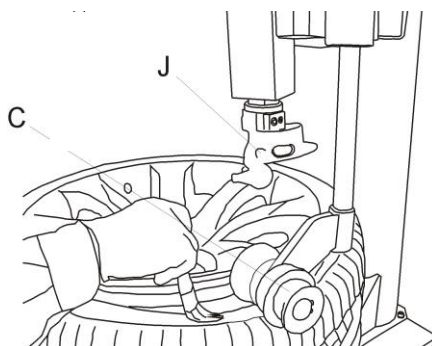

Fig 9
1. Press tyre with right pressing roller C,G to a position 3cm lower than rim edge, lubricate tyre bead, rotate turntable, lift roller C,G ( Fig 9 )